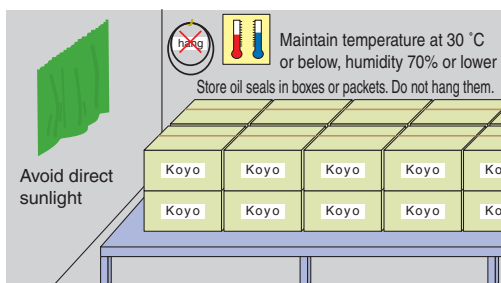

Fig. 1.7.1
- Keep air-conditioned: Room temperature Max. 30 °C and humidity 40% to 70% on average. (See Fig. 1.7.1)